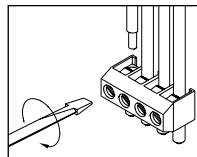

Figure 3
3. Make the connections to the VCS-2D-HP. Locate the connectors for the VCS-2D-HP (remove them if they are plugged in). Next, strip 1/4" of insulation from the end of each wire. Tightly twist the end of each wire until there are no frayed ends. Insert each wire into the appropriate hole on the removable connector blocks; secure the wiring to the connectors by tightening the small connector screws. Be certain that proper phasing is observed—connect the positive terminals on the VCS-2D-HP to the positive terminals on the amplifier and speakers; the negative terminals on the VCS-2D-HP to the negative terminals on the amplifier and speakers. See (Figures 3 and 4).